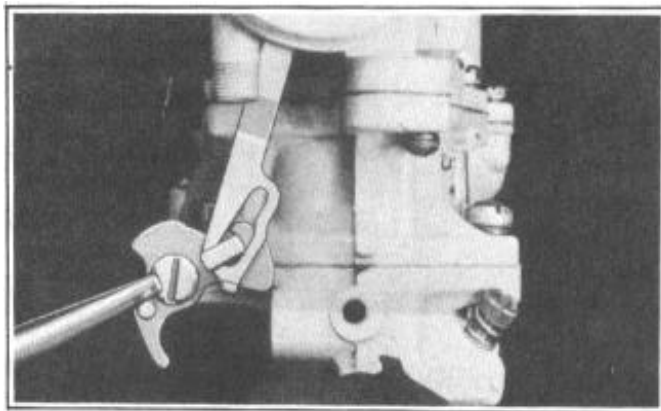

FIGURE 16
1. Remove fast idle cam and pin assembly, Figure 16.